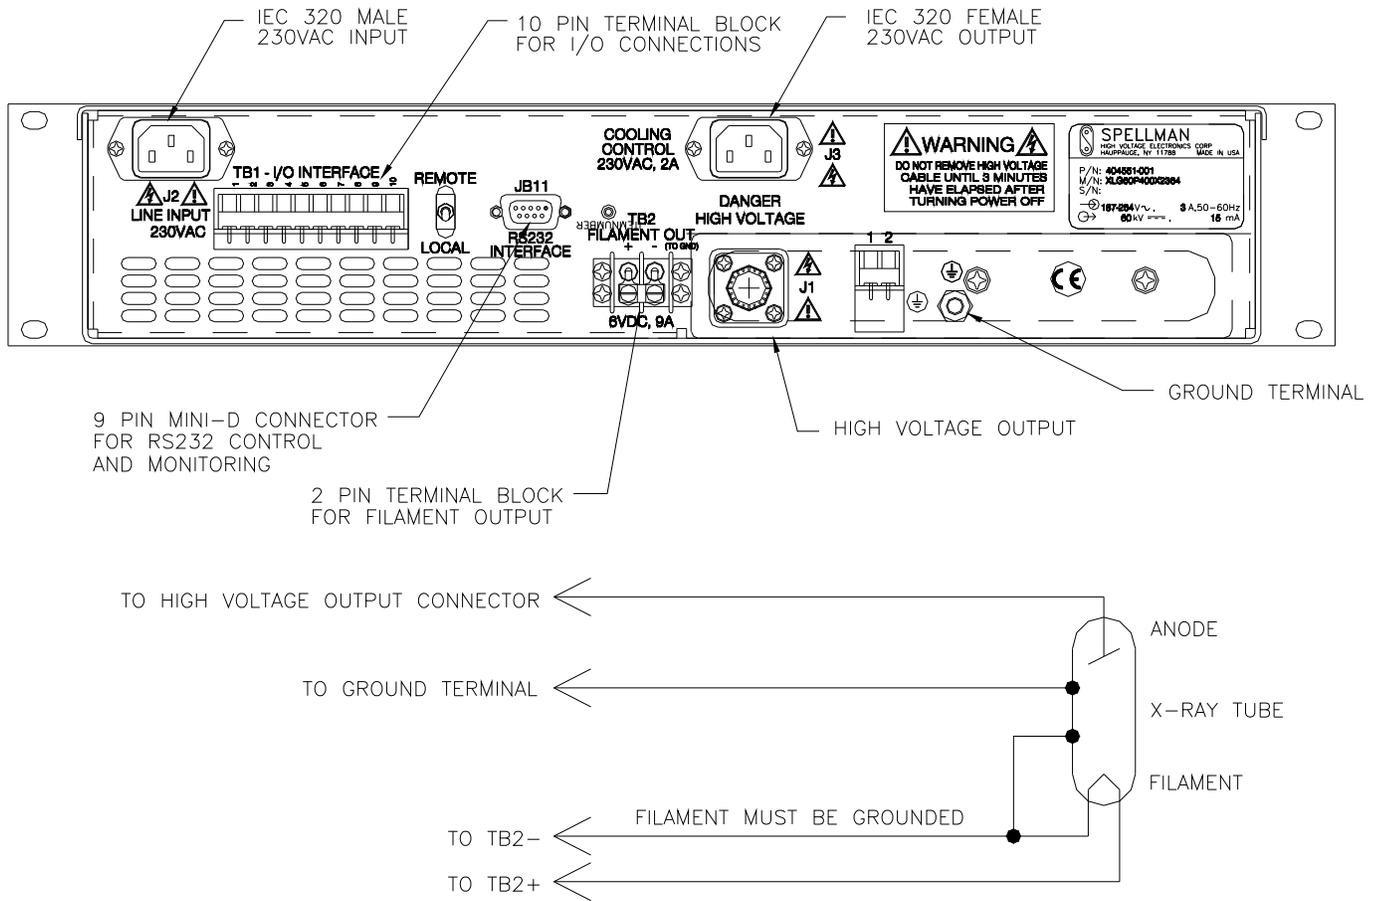

Figure 3.1 Typical Operating Setup X2364 Rear Panel
A) Insure that the Circuit Breaker is in the OFF position (0).
C) **PROPER GROUNDING TECHNIQUE:** The chassis of high voltage power supplies must be grounded, preferably to a water system ground using copper pipe or other earth ground using the connection terminal at the rear of the unit. See Figure 3.1 for a typical operating setup.